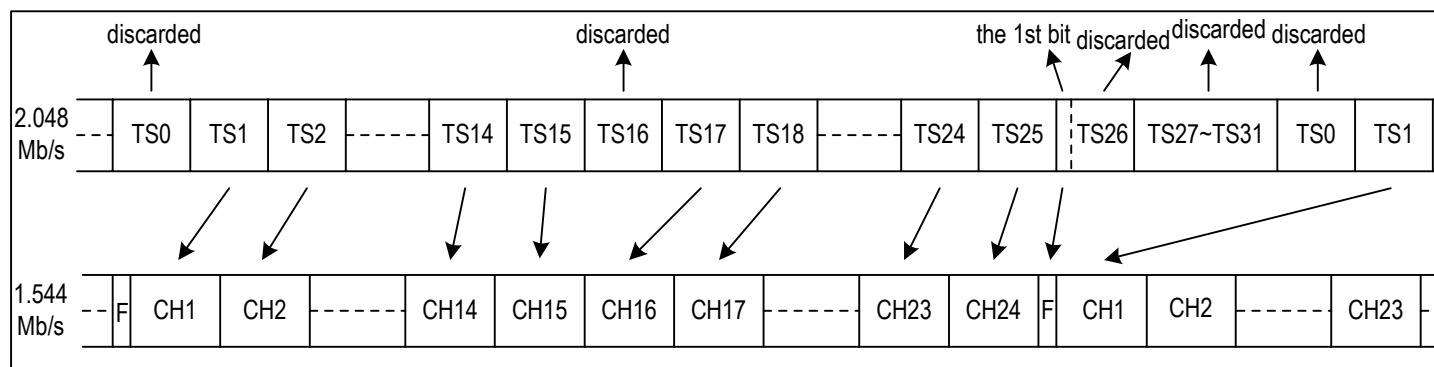

Figure 25. E1 To T1/J1 Format Mapping - G.802 Mode
- T1/J1 Mode E1 Rate per G.802 (refer to Figure 25): TS1 to TS15 of Frame N on the system side are converted into Channel 1 to Channel 15 of Frame N to the device; TS17 to TS25 of Frame N on the system side are converted into Channel 16 to Channel 24 of Frame N to the device. The first bit of TS26 of Frame (N-1) on the system side is converted into the F-bit of Frame N to the device. TS0, TS16, TS27~TS31 and the other 7 bits in TS26 on the system side are all discarded.